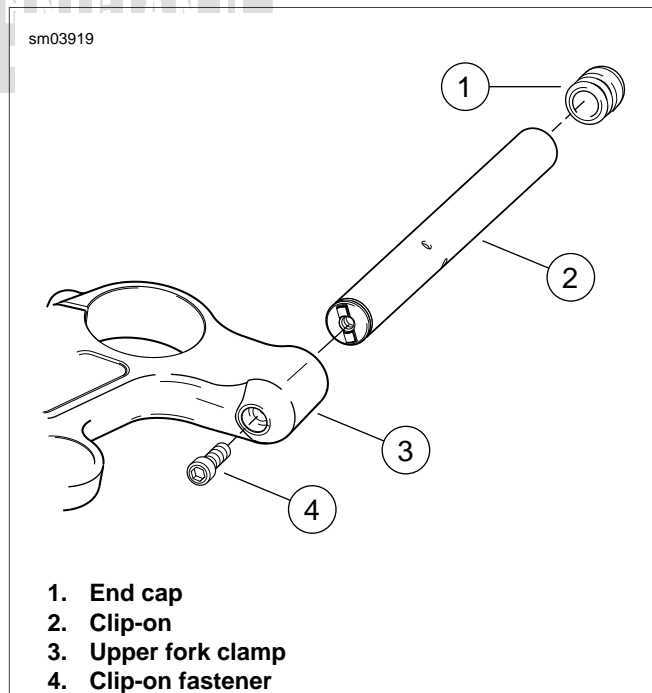

Figure 2-152. Handlebar Clip-On Assembly (Left Clip-On Shown): Firebolt
3. See Figure 2-152. Remove right clip-on assembly.
- a. Partially loosen clip-on mounting fastener (4).
- b. Using a rubber mallet, tap the partially loosened fastener to push the clip-on (2) from the upper right fork clamp (3). Repeat this procedure until fastener and clip-on has been removed from fork clamp.
4. Remove clip-on end cap (1).
- a. See Figure 2-152. Partially loosen clip-on mounting fastener.
- b. Using a rubber mallet, tap the partially loosened fastener to push the clip-on (2) from the upper left fork clamp (3). Repeat this procedure until fastener (4) and clip-on (2) has been removed from fork clamp.
3. See Figure 2-152. Install grip and end cap (1).
4. Install left clip-on into upper fork clamp (3) and tighten fastener (4) to 24-26 ft-lbs (33-35 Nm).
5. Position clutch hand lever to rider preferences and tighten fastener (1) to 60-84 in-lbs (7-9.5 Nm). See 2.25 CLUTCH CONTROL.